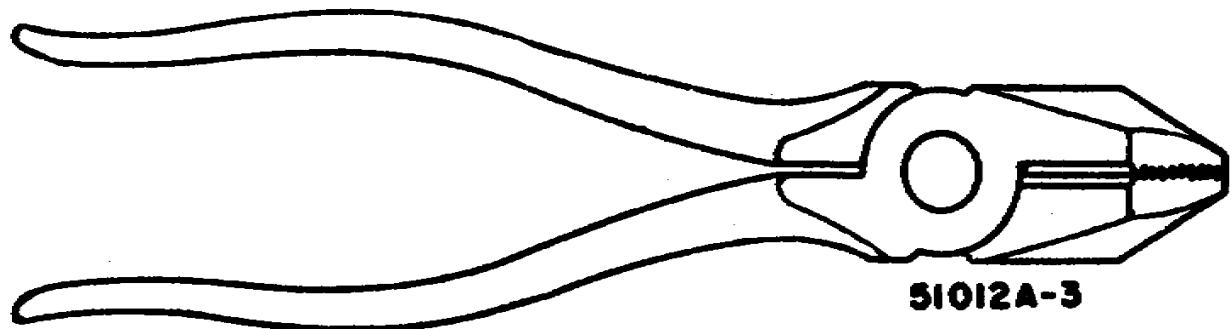

Figure 2. Side cutting pliers.
(2) Side cutting pliers (fig. 2). A tool of many uses, it is one that you can use to grip things, cut wires, and strip insulation. The roughed-up gripping surface will hold a small object firmly. With this tool, you can cut most kinds of wire as thick as a coat hanger wire. The heel, on the handle side of the pivot, can be used for gently crushing insulation on small-diameter wire. Then the crushed insulation can be removed by pulling the wire through one of the holes on the jaw or cutter side.